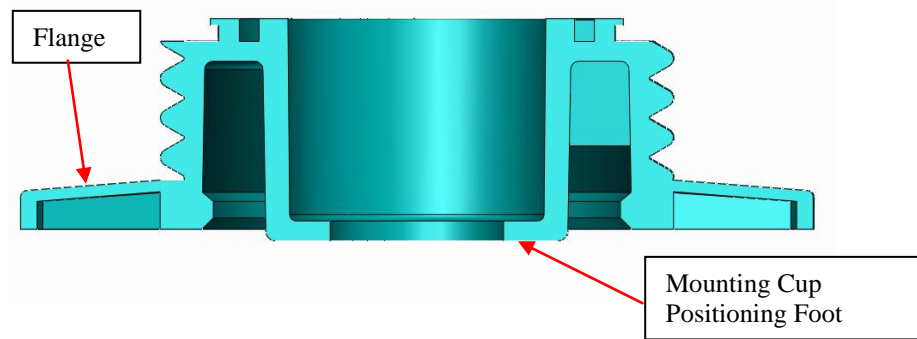

Figure 5 - Collar
2. Gun Collar (see Figure 5) and